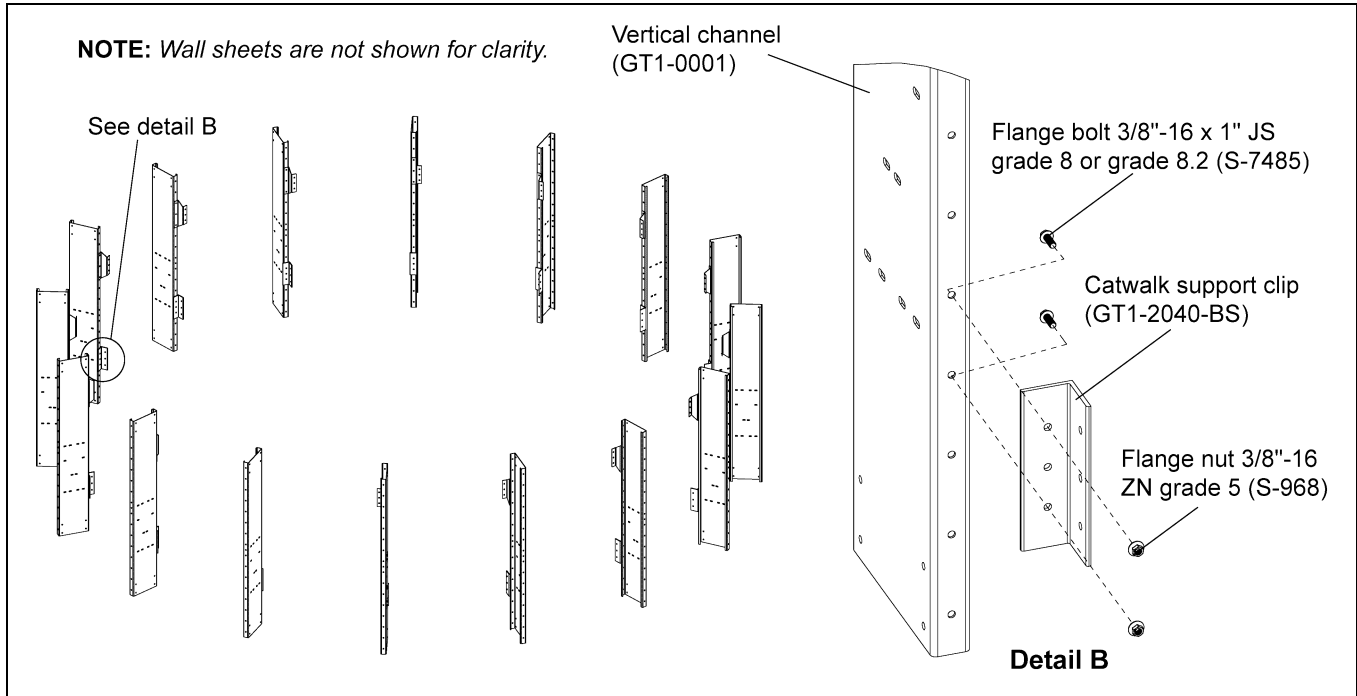

Figure 5B
1. Install catwalk support clips (GT1-2040-BS) to vertical channels (GT1-0001). Support clip can be installed on each vertical channel as the inner wall sheets are installed using 3/8"-16 x 1" JS grade 8 or grade 8.2 bolts (S-7485) and 3/8"-16 ZN grade 5 nuts (S-968). *(See Figure 5B.)*